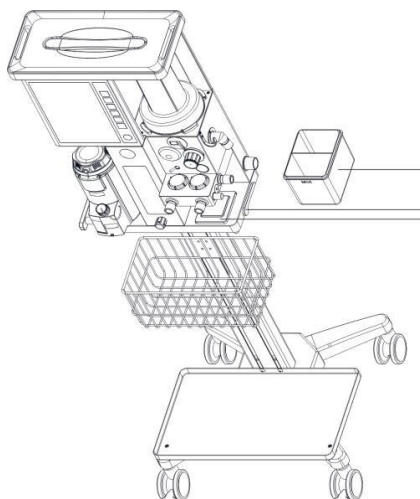
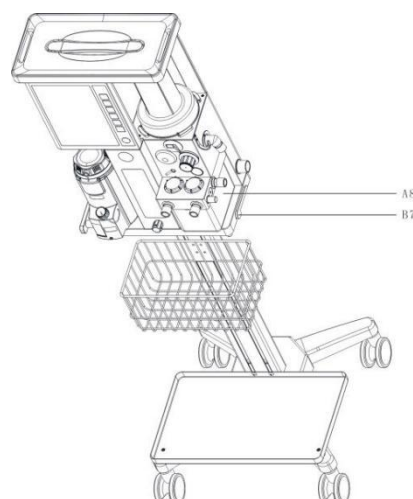

Fig. 3-4-1 Schematic diagram of sodium lime tank before
Fig. 3-4-2 Schematic diagram of sodium lime tank after installation
- (1) Ensure that the sodium lime tank is filled with qualified sodium lime, and the filling amount should not exceed the MAX marking line.
- (2) Ensure that the lock and unlock handle of the sodium lime tank is in the vertical position as shown in Figure 3-4-1.
- (3) Place the sodium lime tank on the support of the sodium lime tank, ensuring that it is placed in the positioning center.
- (4) Rotate the lock and unlock handle of the sodium lime tank clockwise to the horizontal position shown in Figure 3-4-2.
- (5) The installation of the sodium lime tank is completed, as shown in Figure 3-4-2.
- (1) Before disassembling the sodium lime tank, see Figure 3-4-2.
- (2) Lock the unlocking handle of the sodium lime tank and rotate it counterclockwise to the vertical position, as shown in Figure 3-4-1.
- (3) Remove the sodium lime tank.
- (4) Pour out the used sodium lime from the sodium lime tank (when handling sodium lime, relevant hospital and local regulations on pollutants and biological hazards should be followed).
- (5) After the disassembly of the sodium lime tank is completed, if you need to continue using the equipment or before the next use of the equipment, please follow 3.4.1 to install the sodium lime tank.